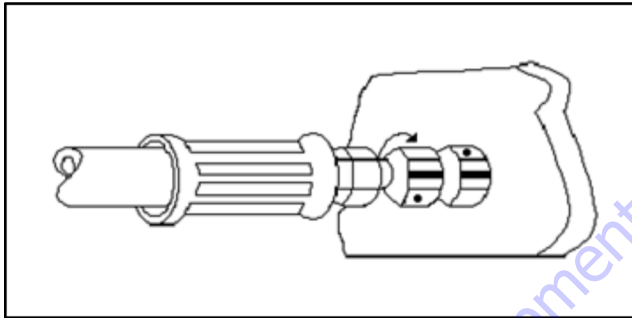

Figure 4-12. FFWR Method
4. After the connection has been properly tightened, mark a straight line across the connecting parts, not covering the dots, to indicate the connection has been properly tightened. See Figure 4-12.